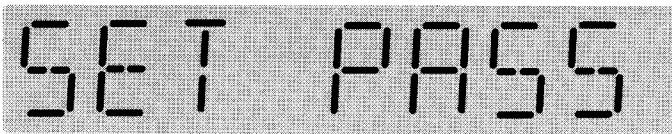

Figure 4-2 Set Password Display
- Step 3:** Continue using the **Down** pushbutton to move to the **Set Security Password** display (Figure 4-2).